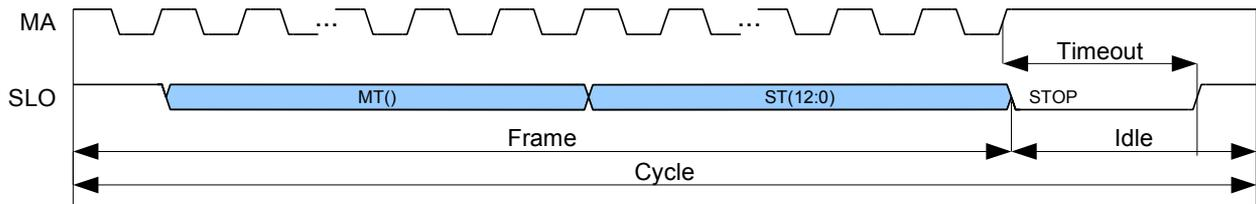

Figure 30: Standard SSI protocol
According to Table 52, the standard SSI protocol format includes the multiturn (MT) and singleturn (ST) position. The ST data length has to be set to exactly 13 bit via **BISS\_ST\_DL**. The MT data length has to be set to either 0 or 12 bit via **BISS\_MT\_DL**. A transmission using the standard SSI protocol is shown in Figure 30.